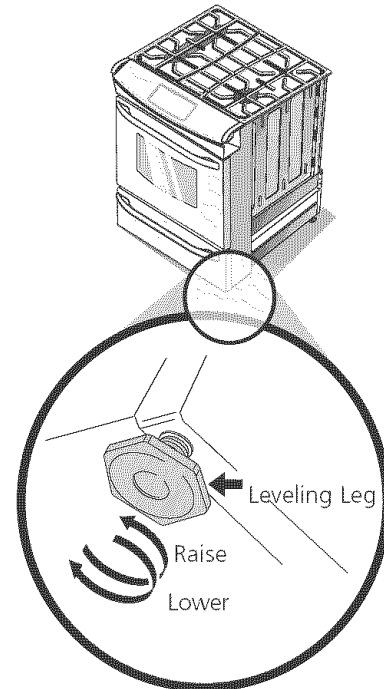

Figure 17
4. Level range if necessary, by adjusting 4 leg levelers with wrench. (See Figure 17 below.) A minimum clearance of 1/8" (0.8 cm) is required between the bottom of the range and the rear leg levelers to allow room for the anti-tip brackets.